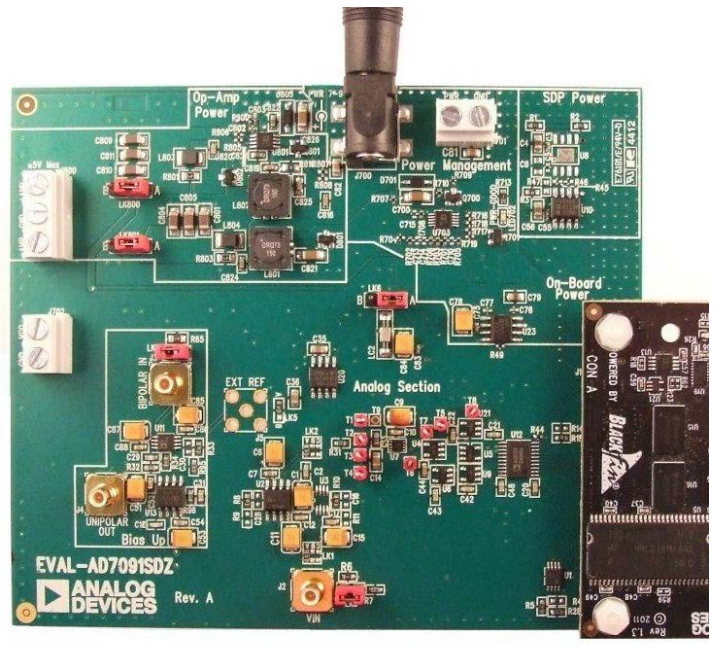

Figure 2. Hardware Configuration—Setting Up the EVAL-AD7091SDZ
3. Connect the EVAL-SDP-CB1Z board to the EVAL-AD7091SDZ shown in Figure 2.
The EVAL-AD7091SDZ board connects to the EVAL-SDP-CB1Z system demonstration platform board. The EVAL-AD7091SDZ board is the controller board, which is the communication link between the PC and the main evaluation board. Figure 2 shows a photograph of the connections between the EVAL-AD7091SDZ daughter board and the EVAL-SDP-CB1Z board.